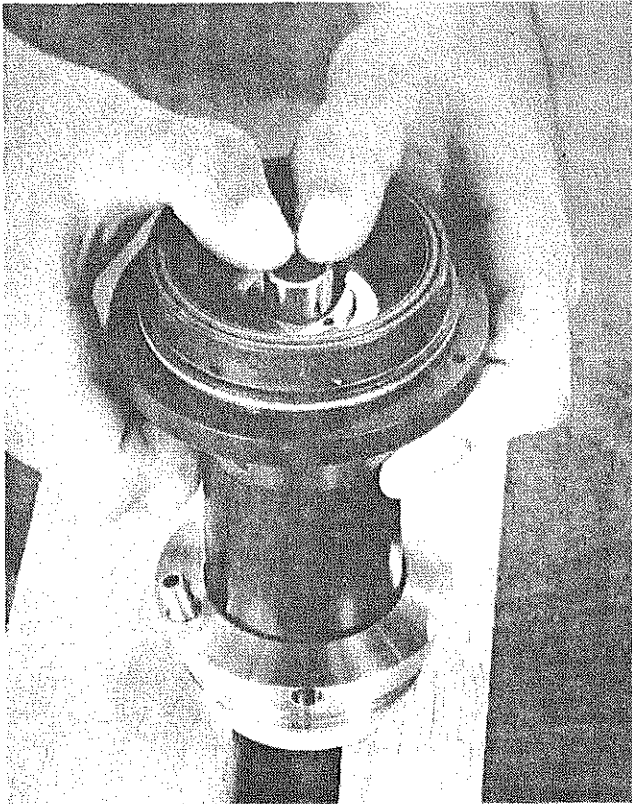

FIG. 31
15. Turn unit over with front facing down and push on the rear of the shaft slightly by hand to make sure the O-rings have correctly seated (Fig. 31).